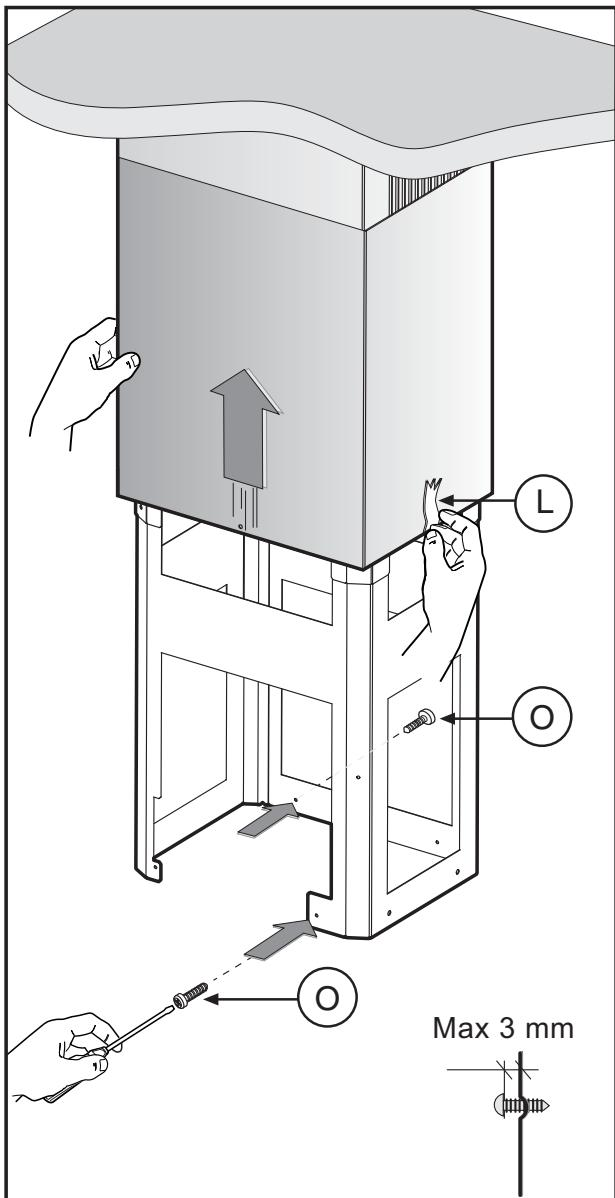

Fig.8
Join the lower chimney piece with the upper one and fix it carefully using adhesive tape **L** (**Fig.8**).
- Screw the 2 screws **O**, max 3 mm (**Fig.8**).